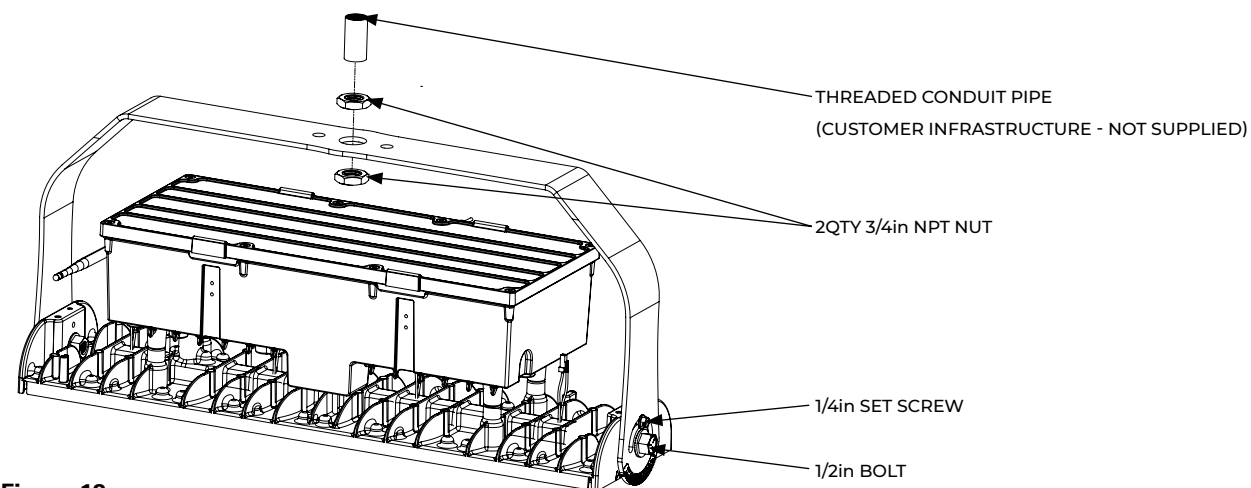

Figure 12.
1. Loosen and remove the existing (4) corner 8-32 screws on the face of the fixture (Fig 12) and retain for future reference.
2. Align visor on top of lens clips matching the (4) existing holes.
3. Use the existing (4) 8-32 screws to secure visor.